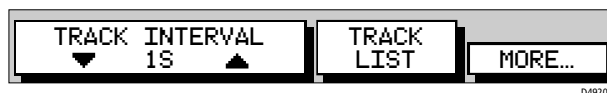

Figure 3-43: Second Level Track Soft Keys
3. Press the MORE... soft key to display the second level Track soft keys as shown in *Figure 3-43*.